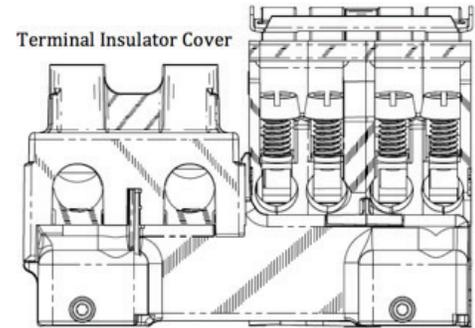

**Figure 2-2 B3 Bypass without and with the B3 Bypass Hold-Down Kit.**
Prior to proceeding with the installation of the B3 Bypass, visually inspect it to ensure that it is complete, free from any defects, and undamaged. The B3 box should contain a thermoplastic terminal insulator cover (See FIG. 2-2 on page 2) and two split-lug terminal tops. In addition, you should have a QFE002 B3 Breaker Hold-Down Kit (comprising of a plastic tube and screw; see FIG. 2-1 on page 2).
13. With the provided B3 Bypass Hold-Down Kit, insert the plastic tube from the bottom of the foot at the front of the B3 Bypass (See **Figure 2-1** above) to the back of the enclosure. If necessary, cut the tube to length with a cable cutter. Place the tube underneath one of the "feet" and hold it in place under the through hole in the foot. (See **Figures 2-1, above and 2-2** on right top.) Insert the hold-down screw through the through-hole in the foot and torque the hold-down screw enough to hold the tube solidly in place. Only one hold-down assembly is necessary (two shown in Fig 2-2 below)